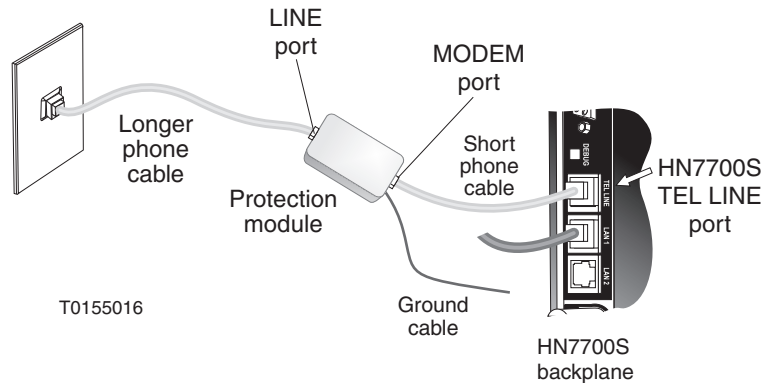

Figure 55: Connecting the protection module to the terminal
1. Connect the short telephone cable from the protection module MODEM port to the HN router TEL LINE port, as shown in Figure 55.
6. Connect the longer phone cable from the LINE port on the protection module to the telephone jack (or to a splitter if other devices share the telephone line). See Figure 55.